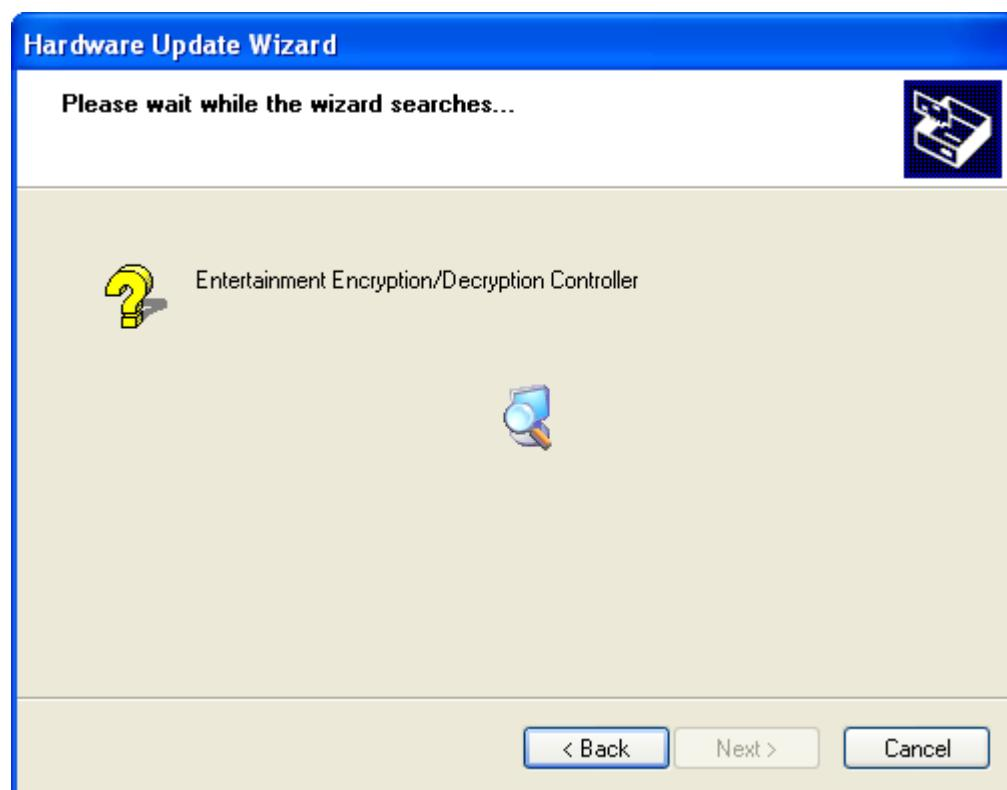

Figure 7-38: Wizard Search
Step 69: The Wizard then searches for the driver. See **Figure 7-38**.